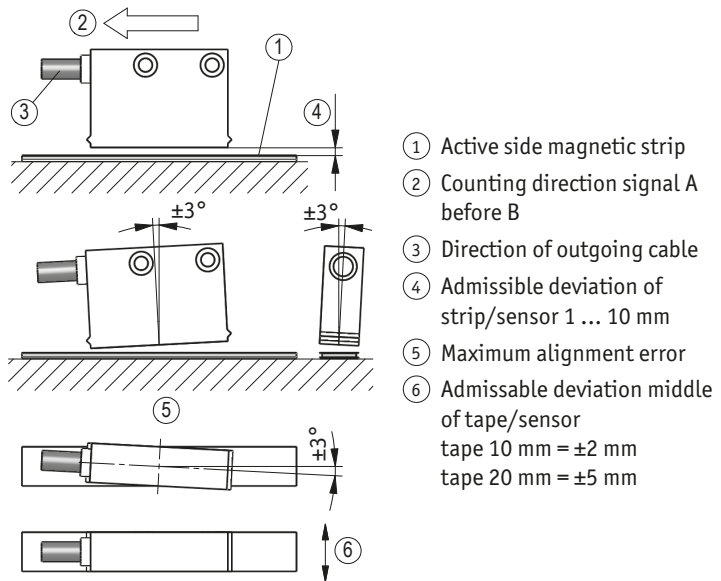

Fig. 6: Definition of the counting direction with magnetic strip and assemblage sensor / magnetic ring, gap measure, tolerances
► Take care that the magnetic sensor is aligned correctly in order to ensure optimum sensing (see Fig. 6).
- The distance tolerances were not observed over the whole measuring length (see Fig. 6).
- The magnetic sensor has been mounted with the active side turned away from the band (see Fig. 6).
- Magnetic sensor has not been aligned according to Fig. 6.